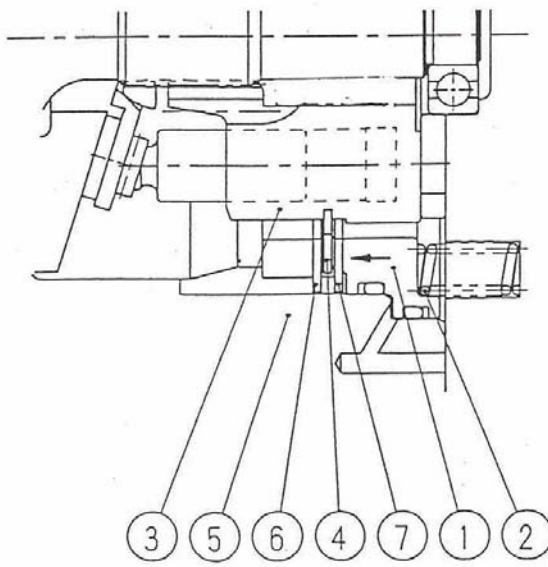

Fig.8
When A and B ports are not pressurized, the brake piston (1) is pressed in the direction (shown as arrow) by the spring (2). Then the disk plate (4) which is fixed to the cylinder barrel (3) is held between the steel plates (6 and 7) which are fixed to the body 2 (5). As a result, with the friction of these plates, the cylinder barrel (3) and the hydraulic motor are unable to rotate. (Fig.8)